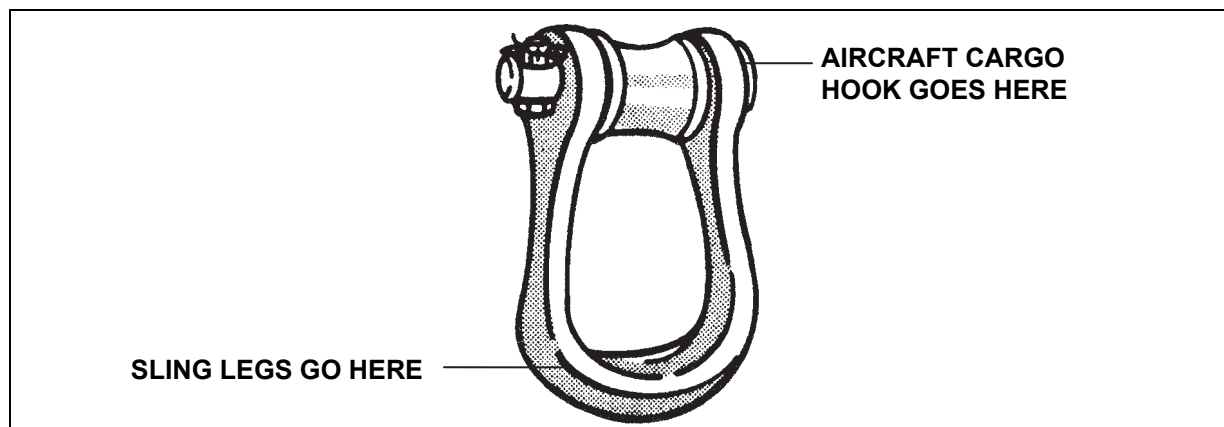

Figure 6-2. Apex Fitting Components
- Apex Fitting.** The metal apex fitting (figure 6-2) gathers the sling legs and attaches the sling set to the helicopter hook. Each apex fitting consists of a clevis, pin, spacer, and castellated nut and cotter pin. The 10,000-pound capacity clevis is made of aluminum and uses a 1 1/8-inch diameter pin. The 25,000-pound capacity clevis is made of alloy steel and is fitted with a 1 1/2-inch diameter pin.